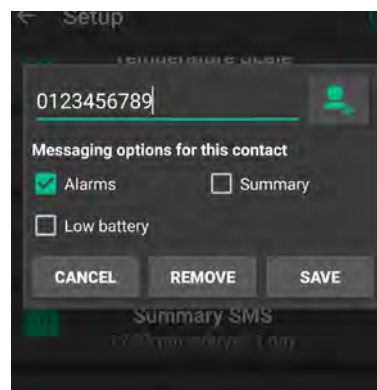

Fig. 10
- f. Input up to three contact numbers that this EL-SMS device should notify, and select which messages they will receive (See Fig. 10).